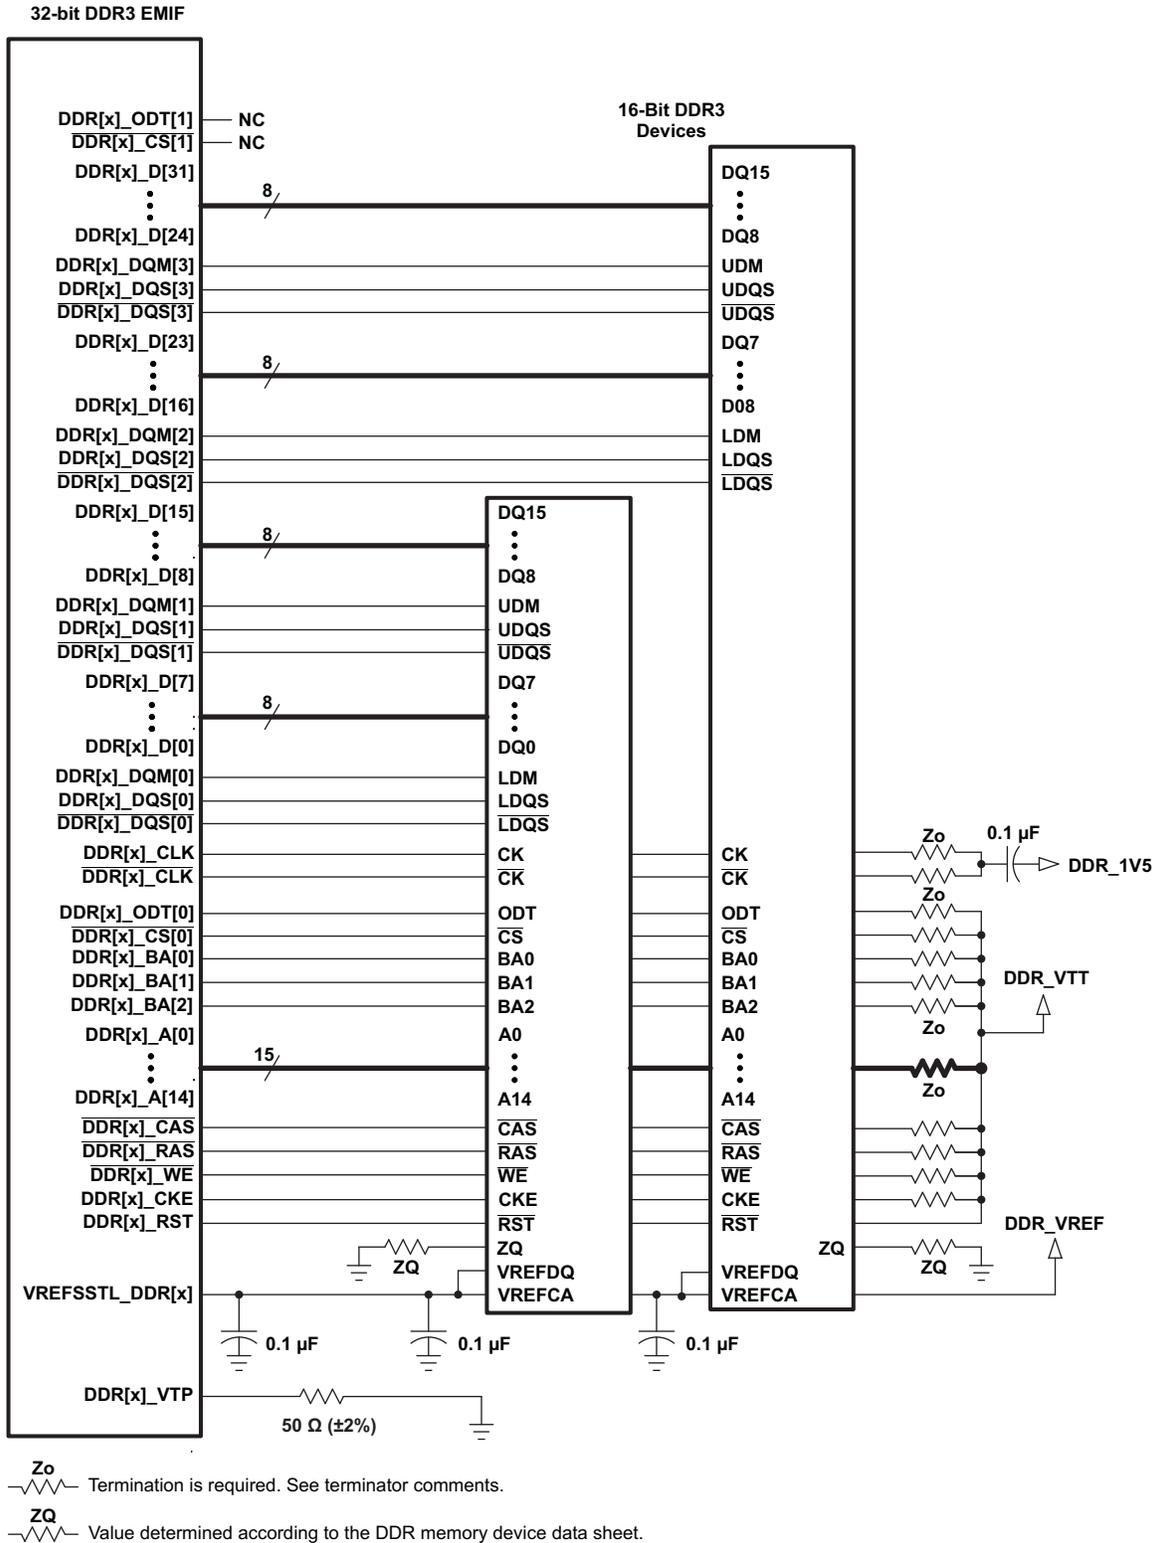
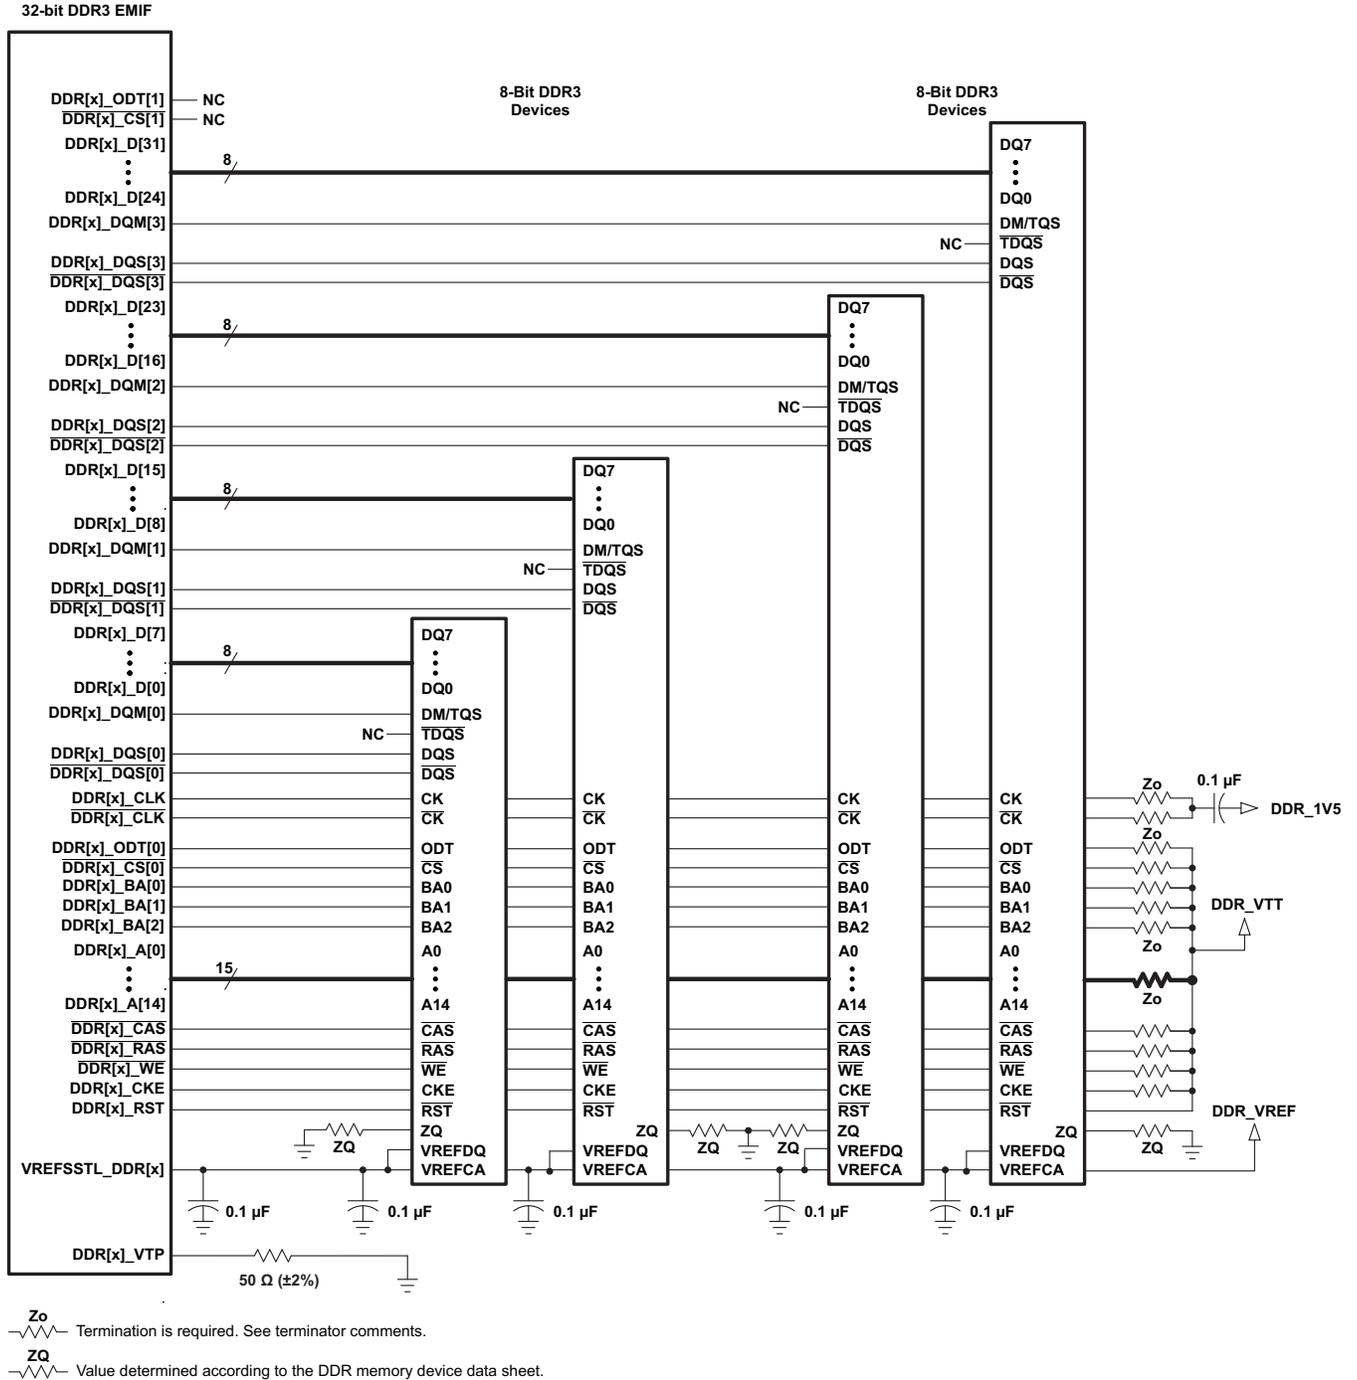

Figure 8-54. 32-Bit, One-Bank DDR3 Interface Schematic Using Two 16-Bit DDR3 Devices
Figure 8-55. 32-Bit, One-Bank DDR3 Interface Schematic Using Four 8-Bit DDR3 Devices
The DDR3 interface schematic varies, depending upon the width of the DDR3 devices used and the width of the bus used (16 or 32 bits). General connectivity is straightforward and very similar. 16-bit DDR devices look like two 8-bit devices. Figure 8-54 and Figure 8-55 show the schematic connections for 32-bit interfaces using x16 devices.
Note that the 16-bit wide interface schematic is practically identical to the 32-bit interface (see Figure 8-54 and Figure 8-55); only the high-word DDR memories are removed and the unused DQS inputs are tied off. The processor $\text{DDR}[x]_{\text{DQS}}[2]$ and $\text{DDR}[x]_{\text{DQS}}[3]$ pins should be pulled to the DDR supply via 1-k Ω resistors. Similarly, the $\overline{\text{DDR}}[x]_{\text{DQS}}[2]$ and $\overline{\text{DDR}}[x]_{\text{DQS}}[3]$ pins should be pulled to ground via 1-k Ω resistors.
(1) DDR3 speed grade depends on desired clock rate. Data rate is 2x the clock rate. For DDR3-800, the clock rate is 400 MHz.
(2) DDR3 devices with speed grades up to DDR3-1600 are supported; however, max clock rate will still be limited to 400 MHz as stated in *Switching Characteristics Over Recommended Operating Conditions for DDR3 Memory Controller*.
(3) For valid DDR3 device configurations and device counts, see Section 8.13.4.2.4, Figure 8-54, and Figure 8-55.